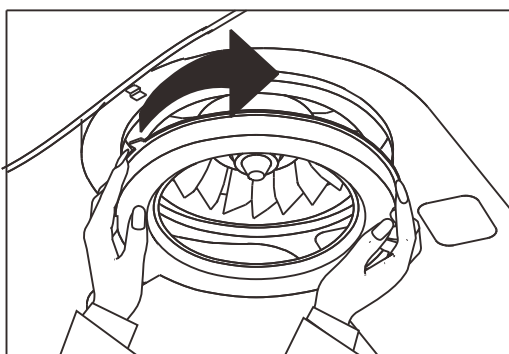

Fig. 4-10
- a. Remove the oil base by turning it clockwise direction.(fig.4-10)